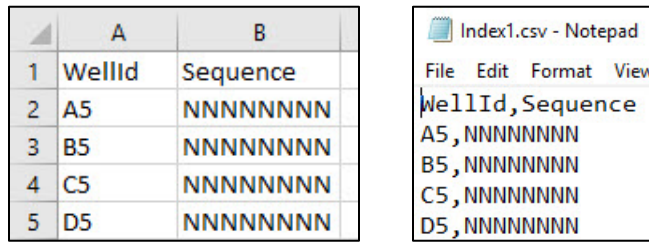

Figure 111. Template Index1.csv contents shown in (Left) MS-Excel and (Right) MS-Notepad.
7. Edit `Index1.csv` using a spreadsheet program like MS-Excel or a text editor such as MS-Notepad. The placeholder "Sequence" string, `NNNNNNNN`, (Column B in Figure 111, left) should be replaced with your custom barcode sequence (see Example, below).
**IMPORTANT:** The only change made to the files when creating custom barcodes should be the sequence value. The source well locations (WellID) defined in the template Index#.csv files (Figure 111, Column A example) should **NOT** be edited. The file names (Index1.csv and Index2.csv) also must **NOT** be altered.